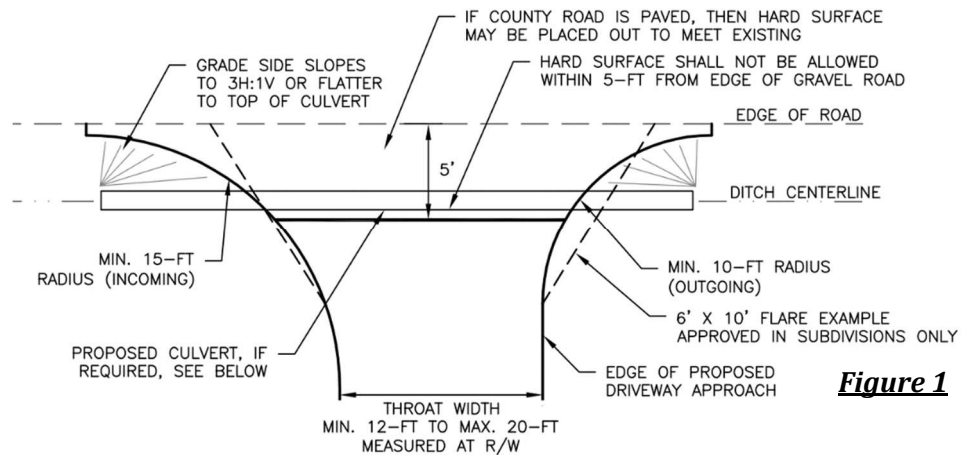

Figure 1
1. At a minimum, the driveway approach shall meet the dimensions in **Figure 1**.